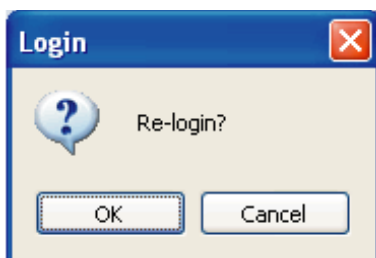

Fig.4-16
②Click “Re-login”, window as Fig. 4-16 will display that interface ask user whether re-login the system, if yes, please click “OK Click “Re-login”, system will close the main interface and enter to the login interface again.